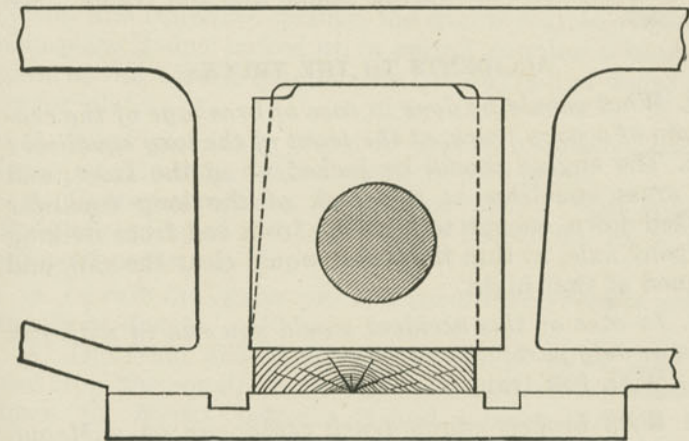

Fig. 387. Blocked-up Wheel.
A. Relieve it of some of its weight by a wedge, and blocking between the spring saddle and the frame. See Fig. 387.